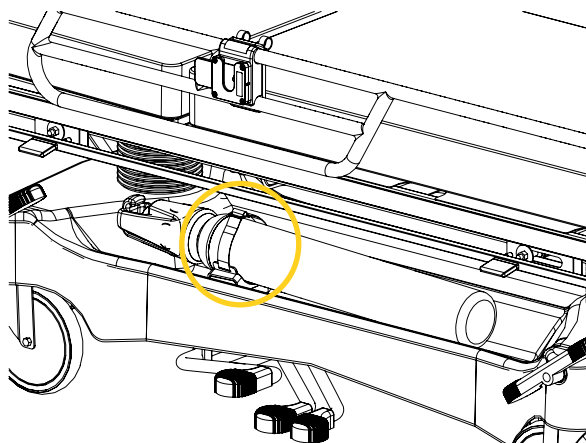

Figure 57: Installing the O2 gas cylinder in the Cylinder Harness – PS5
3. Pull the strap until it is tight around the O2 gas cylinder (Figure 57). Refer to the « Activate the Safety Mechanism of the Adjustable Strap » section on page 42 if needed.